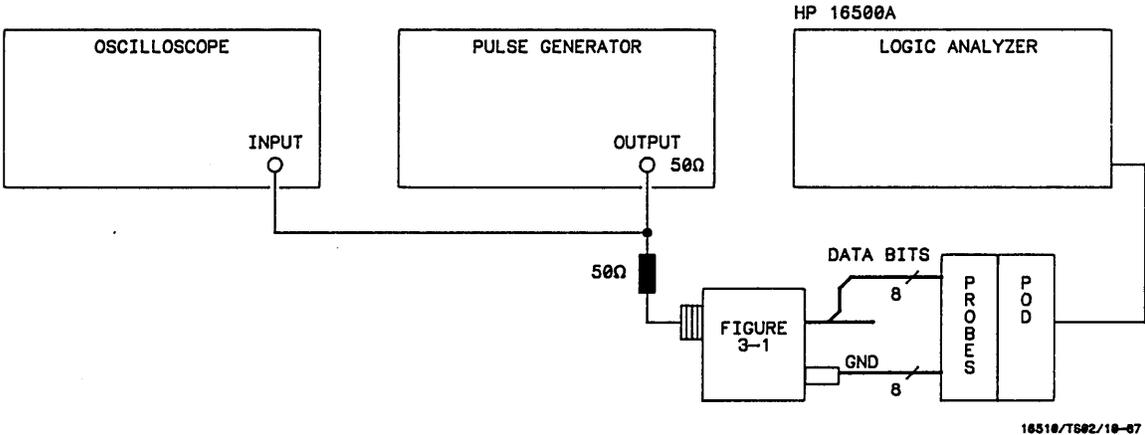

Figure 3-32. Setup for Glitch Test
1. Connect the test equipment as in figure 3-32. The clock input is not used for the glitch performance test.